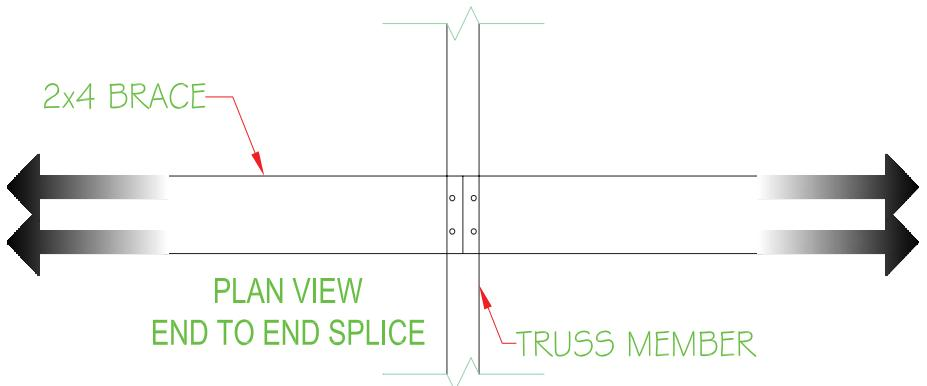

Figure 3. Butt end to end.
- 3.) Butt end to end: **2 end nails \* 53#/nail = 106#** (See Figure 3.)